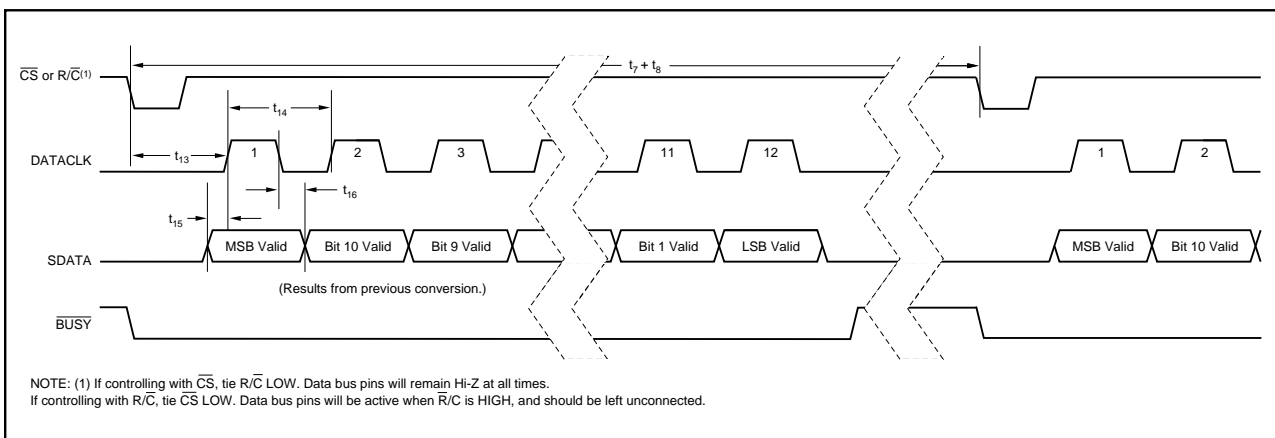

FIGURE 4. Serial Data Timing Using Internal Data Clock (TAG tied LOW).
NOTE: (1) See Figures 4, 5, and 6 for constraints on data valid from conversion "n-1".
To use the internal data clock, tie  $\text{EXT}/\overline{\text{INT}}$  (pin 8) LOW. The combination of  $R/\overline{C}$  (pin 22) and  $\overline{CS}$  (pin 23) LOW will initiate conversion 'n' and activate the internal data clock (typically 900kHz clock rate). The ADS7806 will output 12 bits of valid data, MSB first, from conversion 'n-1' on SDATA (pin 19), synchronized to 12 clock pulses output on DATACLK (pin 18). The data will be valid on both the rising and falling edges of the internal data clock. The rising edge of  $\overline{BUSY}$  (pin 24) can be used to latch the data. After the 12th clock pulse, DATACLK will remain LOW until the next conversion is initiated, while SDATA will go to whatever logic level was input on TAG (pin 20) during the first clock pulse. Refer to Table VI and Figure 4.